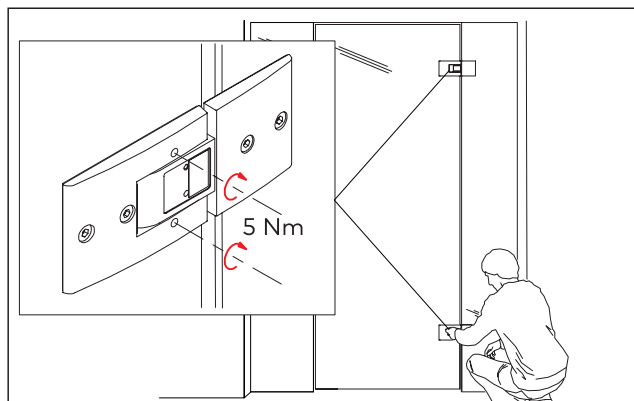

Fig. 35 Position of the screws
3. Tighten all screws (2 x upper hinge and 2 x lower hinge). The tightening torque should be **5 Nm (Fig. 35)**!